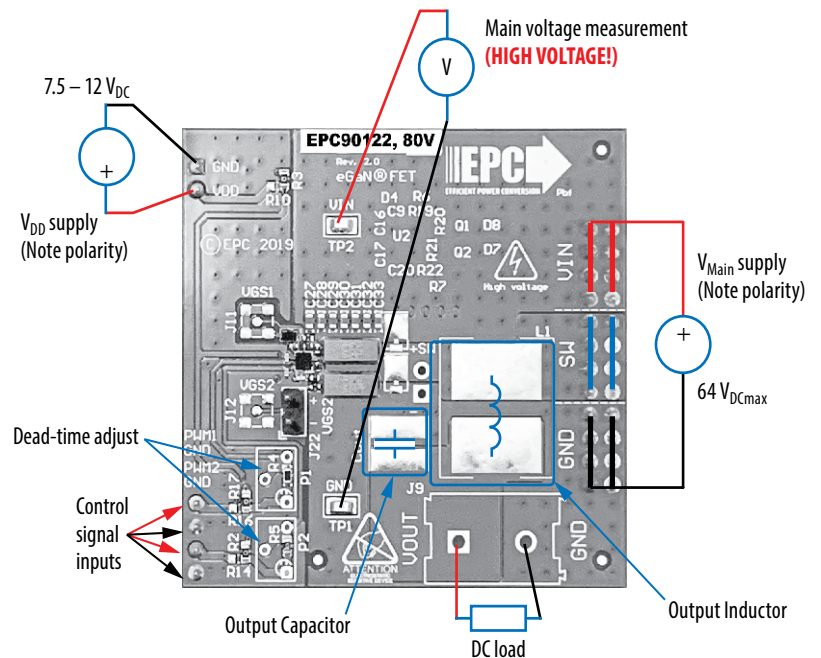
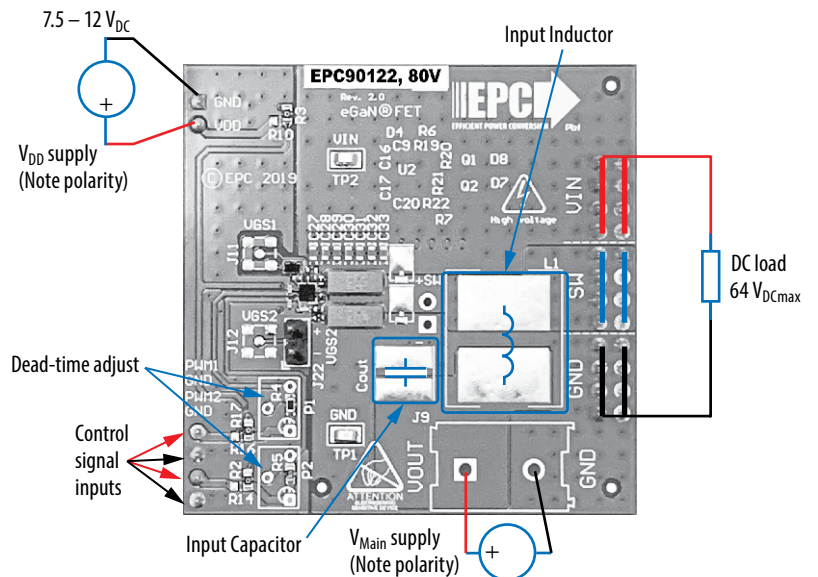

Figure 2: Buck configuration
Figure 3: Boost configuration
The half bridge evaluation board EPC90122 is easy to set up as buck or boost converter. Refer to figure 2 for buck converter configuration and measurement setup, and figure 3 for boost converter setup, and follow the procedure below:
2. With power off, connect the switch node (SW) of the half bridge to your circuit as required (half bridge configuration). Or use the provided pads for inductor ( $L_1$ ) and output capacitors ( $C_{out}$ ), as shown in figure 2 with a DC load connected across  $V_{OUT}$  and GND.
1. The inductor ( $L_1$ ) and input capacitors (labeled as  $C_{out}$ ) can either be soldered onto the board, as shown in figure 3, or provided off board. Anti-parallel diodes can also be installed using the additional pads on the right side of the EPC2206 FETs.